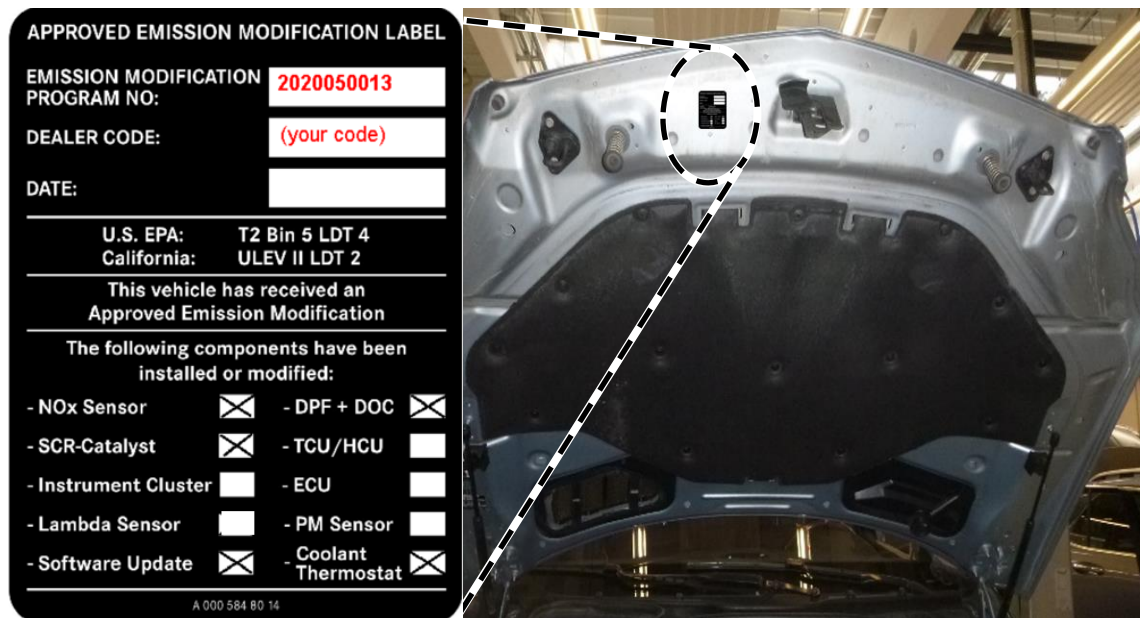

Figure 12
12. Clean the bonding surface of the hood and attach the adhesive label (**Figure 12**).